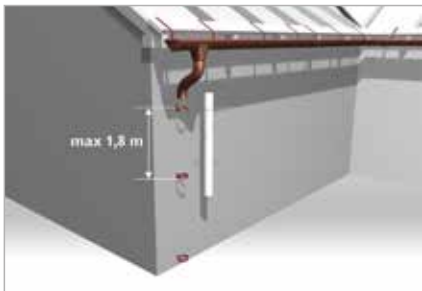

Fig. 32
5.1 Fix the wall plugs in the façade. The length of the dowels should allow for the building insulation thickness. Screw the clamps onto the wall plugs. The maximum distance between subsequent clamps is 1.8 m (**Fig. 32**).